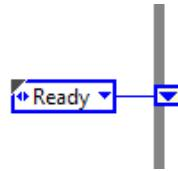

FIGURE E.7 Wiring the state control to the shift register.
29. Right-click on a blank space in the diagram and choose **Select a VI...** From the dialog that pops up, select the new control you just created (it will have the extension .ctl), and wire it as in Fig. E.7, so that the first state the machine enters is the Ready state.